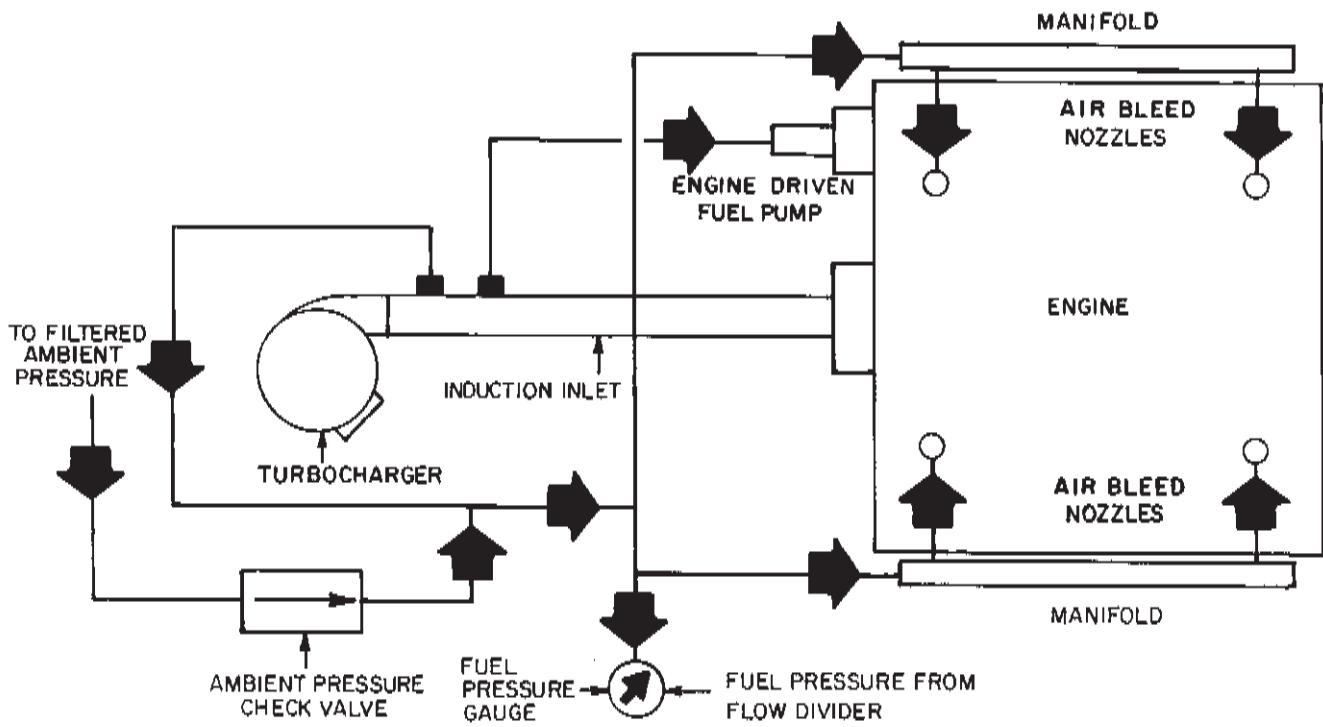

FIGURE 13-10
(1) Ambient Air Check Valve - Removal (See Fig. 13-10)
(4) Ambient Air Check Valve - Installation (See Fig. 13-10)